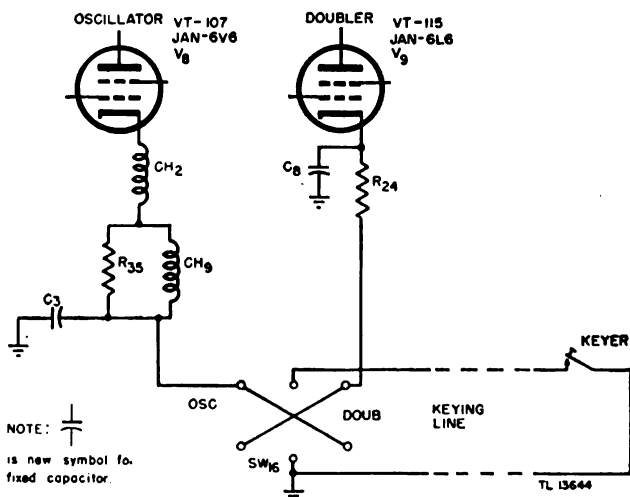

Figure 28. Radio Transmitter T-62()/MRC-1—keying circuit.
a. **KEYING CIRCUIT** (fig. 28). The keying circuit has been modified to allow the transmitter to be